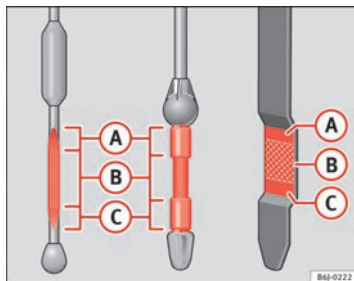

Fig. 124 Engine oil dipstick
- Then pull it out once more and check the oil level ⇒ fig. 124. Top up with engine oil if necessary.